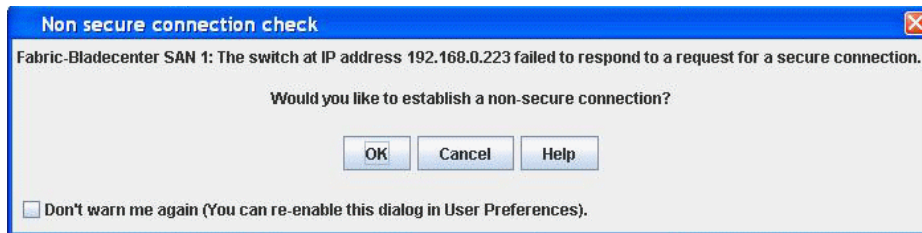

Figure 9-15 Fabric specified window
3. Enter a name in the Fabric Name field. Continue to insert the IP address of the switch module and then your user ID and password. The default user ID and password is USERID and PASSWORD (use all caps, and, in the password, insert 0 for O). In our example, we enter a fabric name of BladeCenter SAN 1. Click **Add Fabric**. You will see a window similar to Figure 9-15.